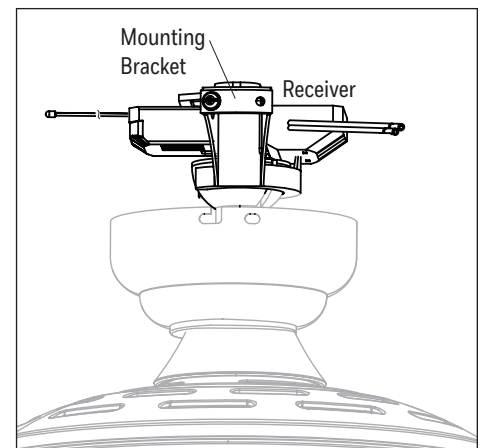

Figure 3.6
6. Insert the receiver into the mounting bracket with the flat side facing the ceiling (Figure 3.6).